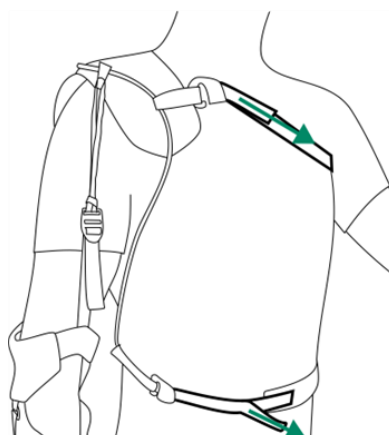

Figure 4
6. Pull on the loose end of the torso straps, to ensure that the straps are tight and the brace stays in place (Fig. 4).